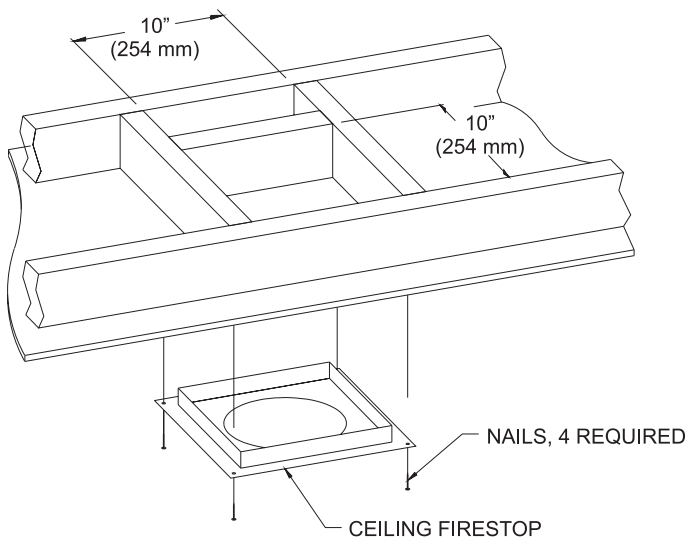

**Figure 50 (Attic Installation)**
Position a plumb bob directly over the center of the vertical vent component and mark the ceiling to establish the center point of the vent. Drill a hole or drive a nail through this center point and check the floor above for any obstructions such as wiring or plumbing runs. Reposition the fireplace and vent system if necessary to accommodate ceiling joists and/or obstructions. Cut a 10 inch x 10 inch hole through the ceiling, using the center point previously marked. Frame the hole with framing lumber the same size as the ceiling joists. **See Figure 48.** If the area above the ceiling is NOT an attic, position and secure the ceiling firestop on the ceiling side of the previously cut and framed hole. **See Figure 49.** If the area above the ceiling is an attic, position and secure the firestop on top of the previously framed hole. **See Figure 50.**
**See Figure 49.** If the area above the ceiling is an attic, position and secure the firestop on top of the previously framed hole. **See Figure 50.**